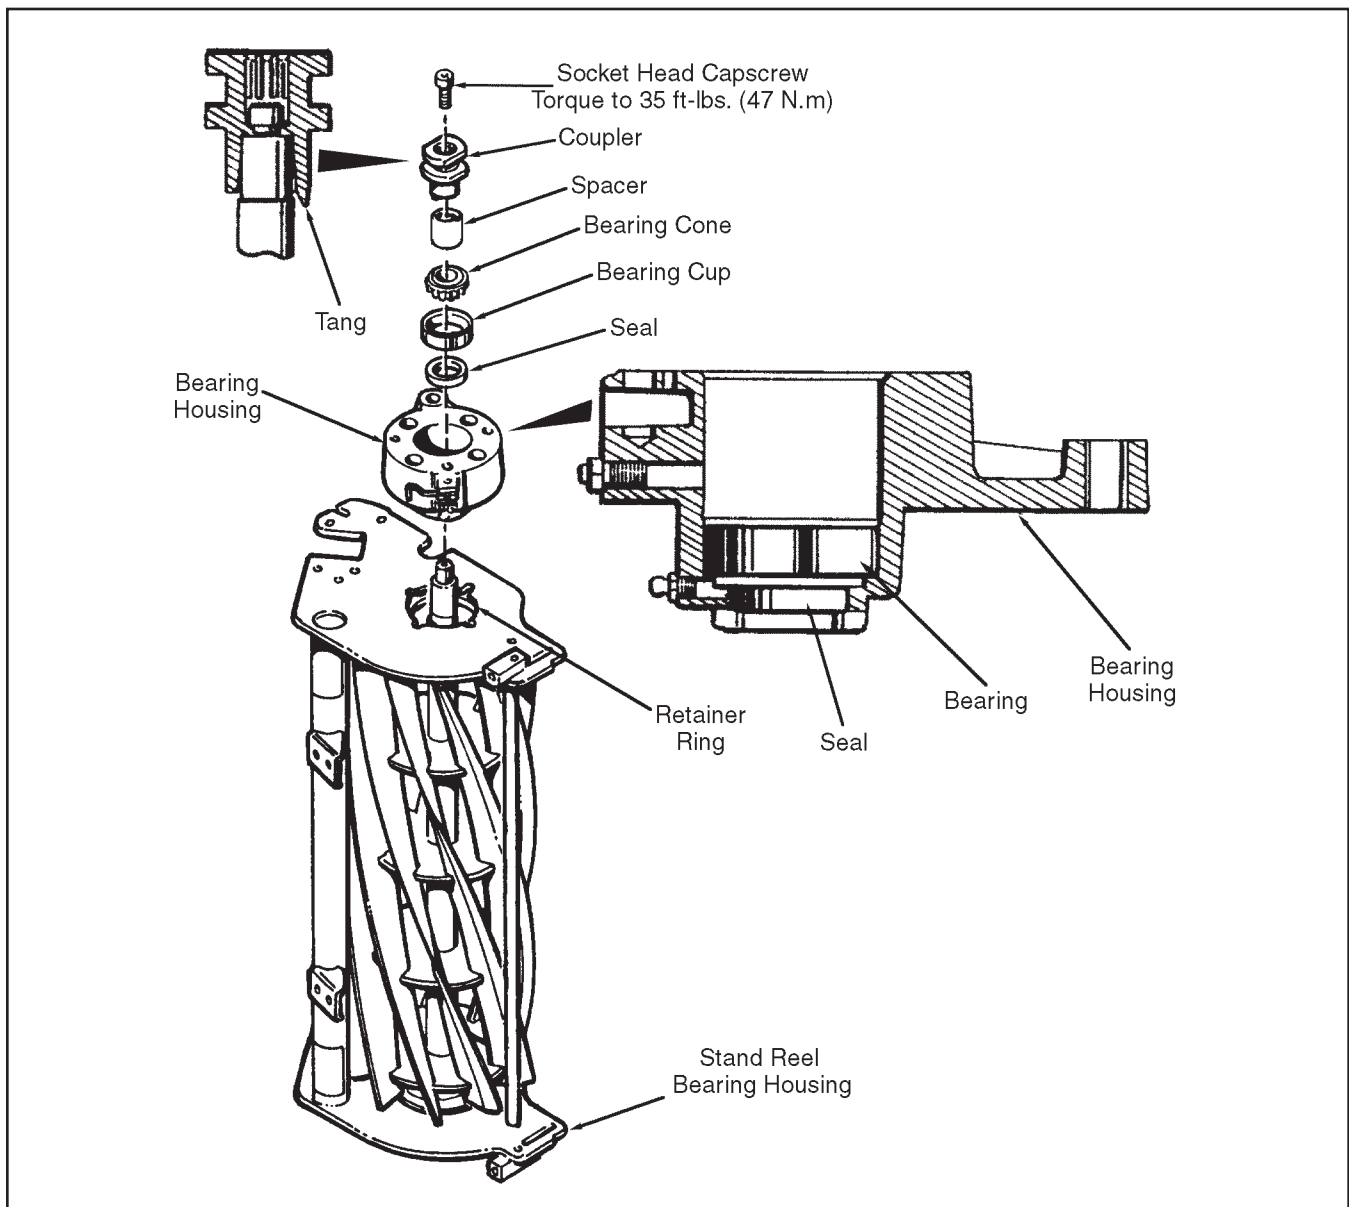

Figure 12G-5. Reel Reassembly (Steps 13 to 19)
13. Refer to Figure 12G-6. Stand the reel and frame up onto the spring side of the bearing housing. This will push the coupling in, compressing the spring and shifting the reel to the right.
20. Refer to Figure 12G-4 (Sheet 2). Install the bedknife to the frame, torque mounting bolts to 30 ft-lbs. (41 N.m).
21. Refer to Figure 12G-4 (Sheet 1). Install the deflector shield. Fasten it to the frame using only one flat washer, lockwasher and capscrew through the inside hole.
22. Refer to Figure 12G-3. Using a channel lock pliers, compress the spring of the bedknife adjuster. Position the adjuster so the ear of the bedknife goes between the spacers.
24. Install the throw shield (see Figure 12G-4, Sheet 1).
25. Install the front and rear rollers and rear roller scraper (See Figure 12G-4, Sheet 1).